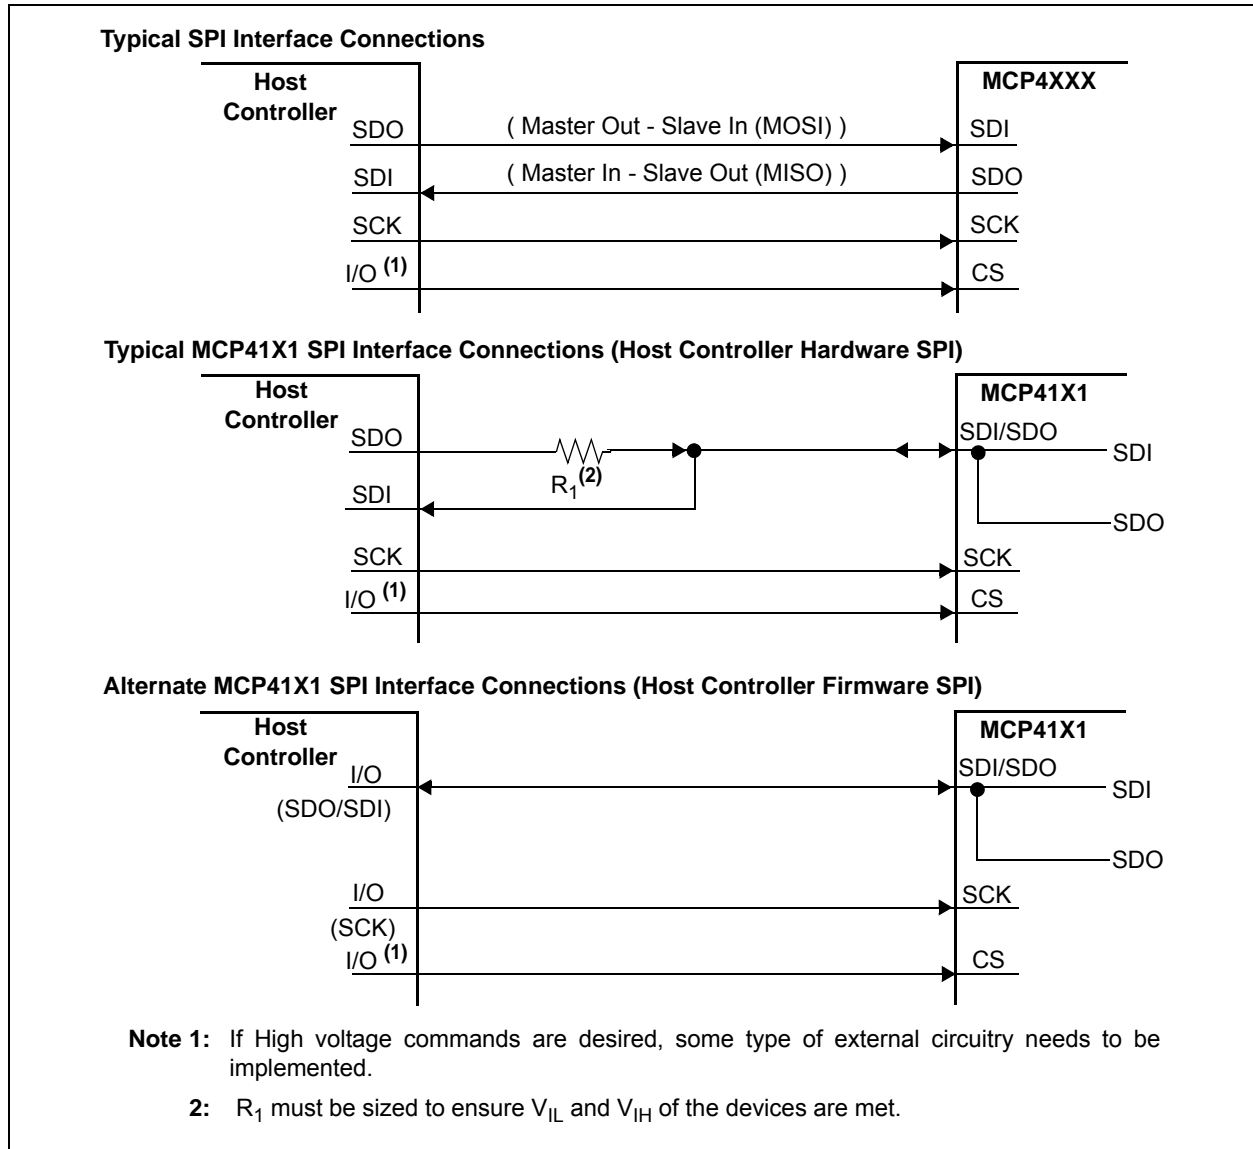

FIGURE 6-1: Typical SPI Interface Block Diagram.
Typical SPI Interfaces are shown in Figure 6-1. In the SPI interface, The Master's Output pin is connected to the Slave's Input pin and the Master's Input pin is connected to the Slave's Output pin.
**Note:** Care must be taken to ensure that a Drive conflict does not exist between the Host Controllers SDO pin (or software SDI/SDO pin) and the MCP41x1 SDI/SDO pin (see Figure 6-1).